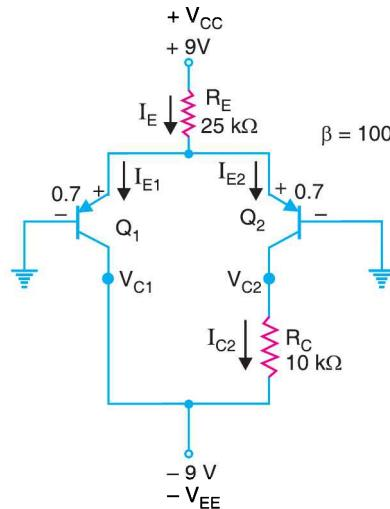

Fig. 25.99
5. Find the bias voltages and currents for the differential amplifier circuit shown in Fig. 25.99.